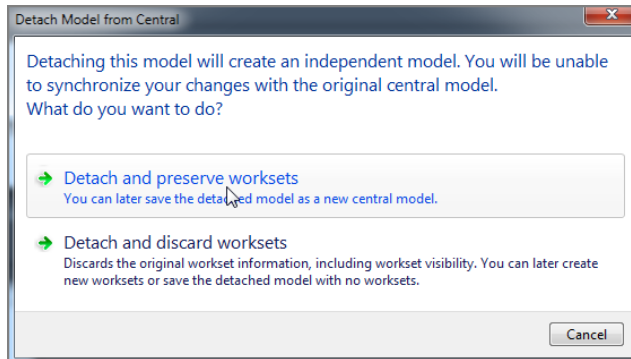

FIGURE 22.19: Preserving the worksets
6. You can turn off all file sharing and put the model back into a single-user state. In this instance, however, click Detach And Preserve Worksets, as shown in Figure 22.19.